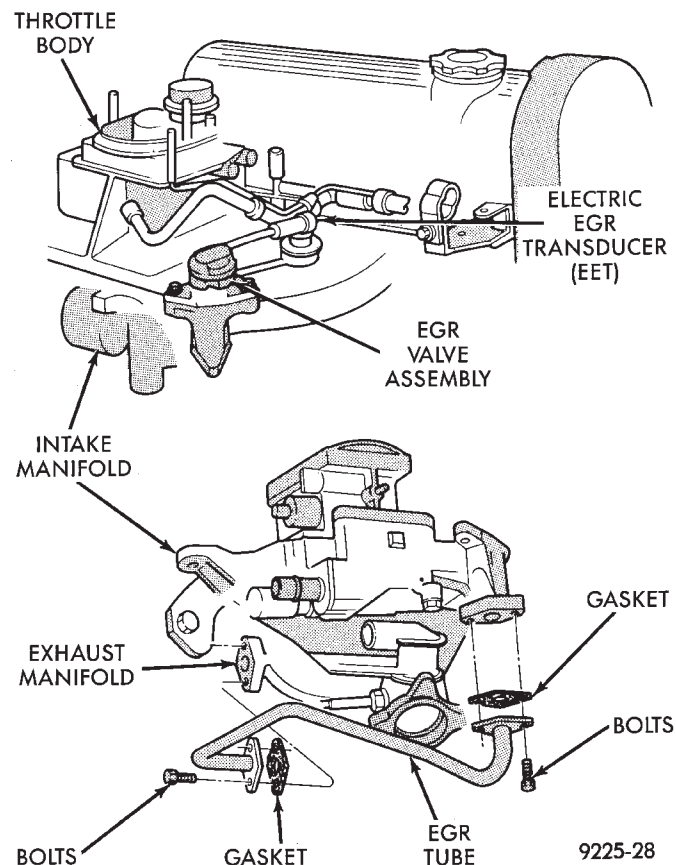

Fig. 12 EGR System—2.2L and 2.5L TBI Engines
Certain vehicles equipped with either a 2.2L, 2.5L, 3.0L, 3.3L or 3.8L engines may use a backpressure type Exhaust Gas Recirculation (EGR) system (Fig. 12, 13, or 14). Turbo I and Turbo III engines do not use an EGR system.
- (1) Disconnect electrical connector and vacuum line from the electric EGR transducer (Fig. 12).
- (2) Remove EGR valve bolts from intake manifold.
- (3) Remove EGR valve from intake manifold.
- (4) Clean gasket surface and discard old gasket. Check for any signs of leakage or cracked surfaces.